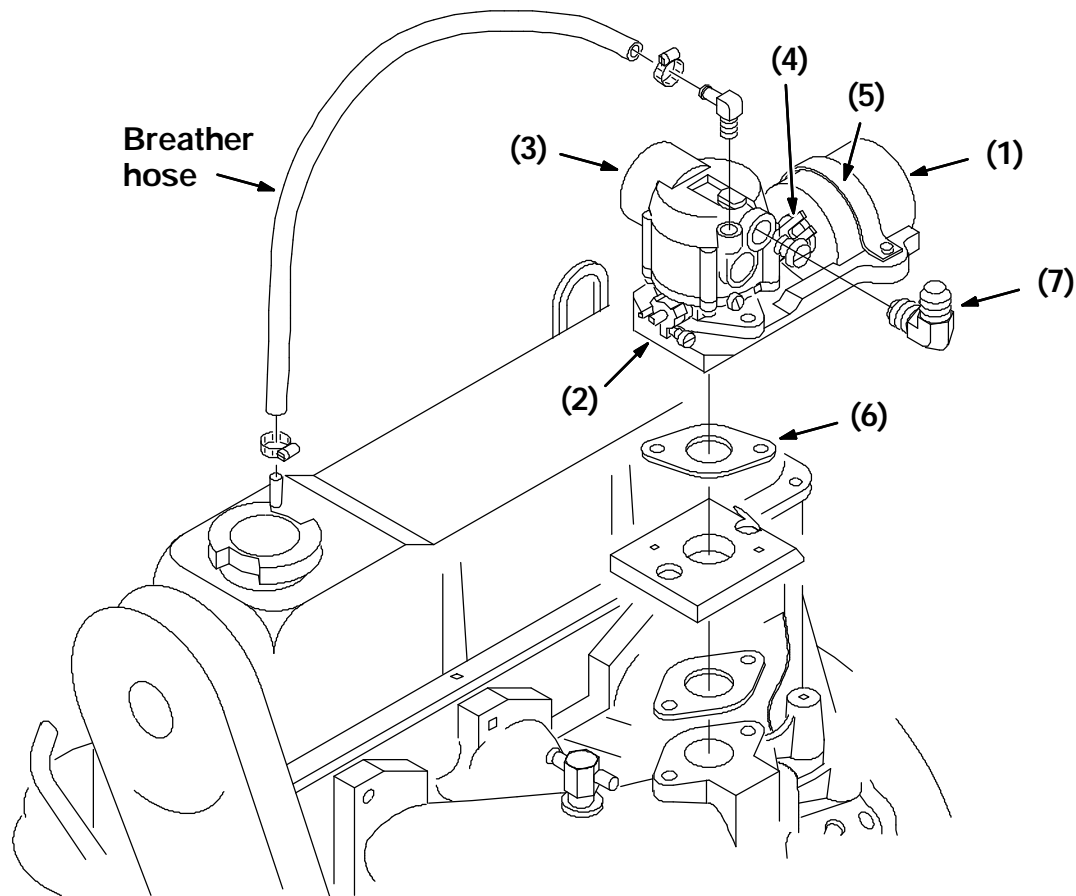

FIG. 3 - 2.3 LPG Governor Assembly
3. Remove the air cleaner hose at the carburetor. (Refer to FIG. 3)
4. Remove the hose from the carburetor that leads to the engine breather. (Refer to FIG. 3)
(Refer to FIG. 3 and 4)
4. Remove the air cleaner hose at the carburetor. (Refer to FIG. 3 and 4)
8. Remove the gas line from the fuel filter on a gas machine or the LP hose on an LPG machine. (Refer to FIG. 3 and 4)
9. Remove the two cap screws holding the carburetor/actuator assembly to the engine manifold. Remove the assembly and gasket from the machine. (Refer to FIG. 3 and 4)
10. Position the new assembly and new gasket on the engine manifold. Reinstall the two cap screws and firmly tighten. (Refer to FIG. 3 and 4)
11. Reconnect the gas line (gas machine), LP hose (LPG machine), breather hose, air cleaner horn (gas machine), choke cable (gas machine), and air cleaner hose to the new carburetor/actuator assembly. (Refer to FIG. 3 and 4)
13. **LPG MACHINES:** Open the valve on the LP tank. Check the LP hose, at the carburetor, for any leaks. (Refer to FIG. 3)